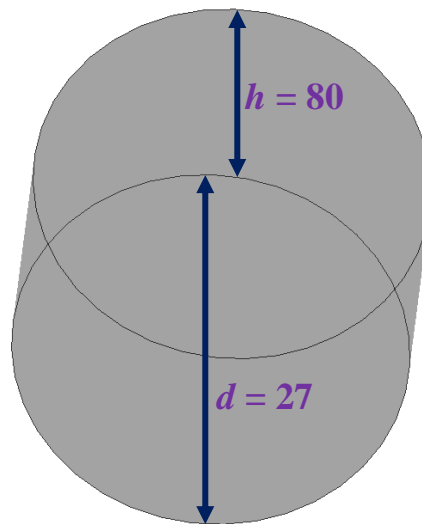

Fig. 2. Circular waveguide. Units are in mm.
- Using HFSS, simulate an air-filled circular waveguide shown in Fig. 2.